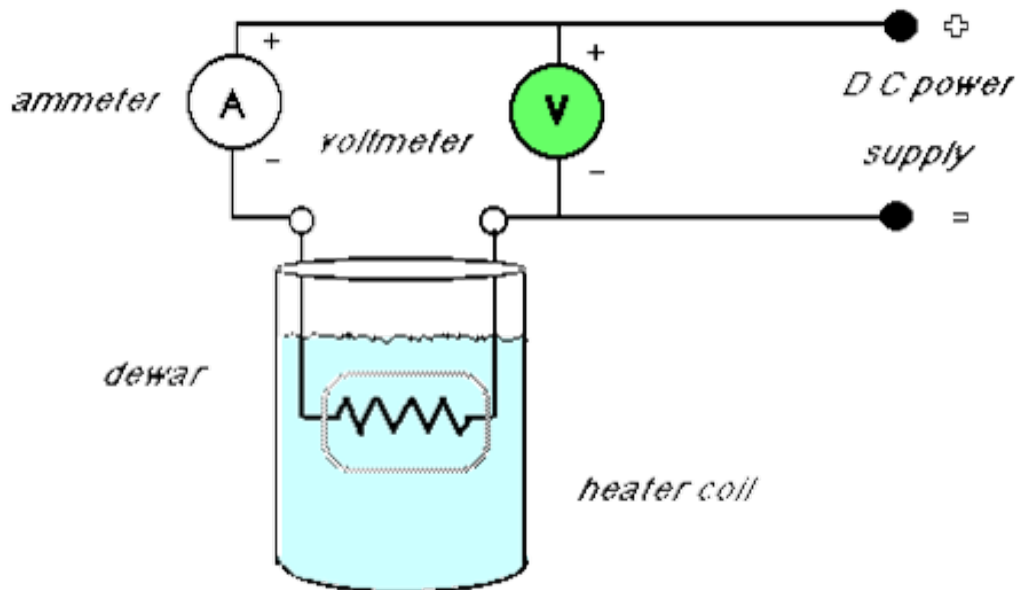

Figure 17.1
2. The ammeter measures current in amps (A), while the voltmeter measures the potential difference across the heating element in volts (V). Check and verify that the heating element, voltmeter, ammeter, and power supply are connected as shown in Figure 17.1. Note that you should be connected to the 1 A scale on the ammeter and the 30 V scale on the voltmeter. This should be done for you ahead of time. Note! The voltage knob on the power supply (knob on the wall unit) should be turned all the way counter-clockwise (i.e. all the way off) before you turn on any of the equipment. Have your TA check your setup if you are unsure.